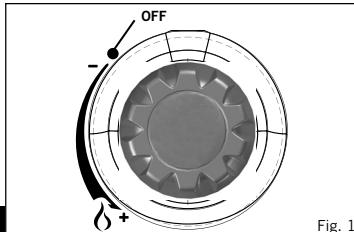

Fig. 1
- Before connecting the gas supply, firstly check that the appliance valve is in the off position by turning the control knob fully clockwise (See Fig. 1).
- To fit the Gas Container, first check that the appliance valve is in the off position by turning the control knob clockwise to its stop (See Fig. 1).